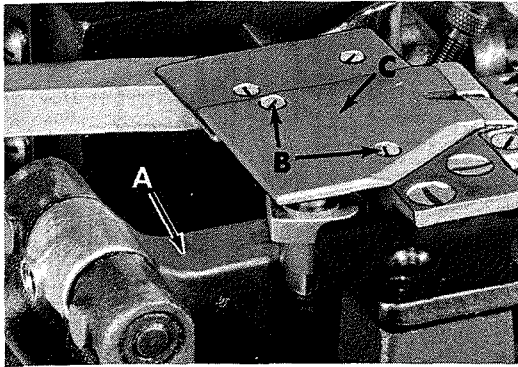

Fig. 18
Cutting edge of the lower knife should overlap the thread opening by 1/64 inch (.40mm) to cut properly. The back edge of the knife should not enter the thread opening forming a triangle where the thread chain could get caught. The lower life is driven by the feed bar (A, Fig. 18).
To adjust lower knife; (1) remove screws (B, Fig. 18).